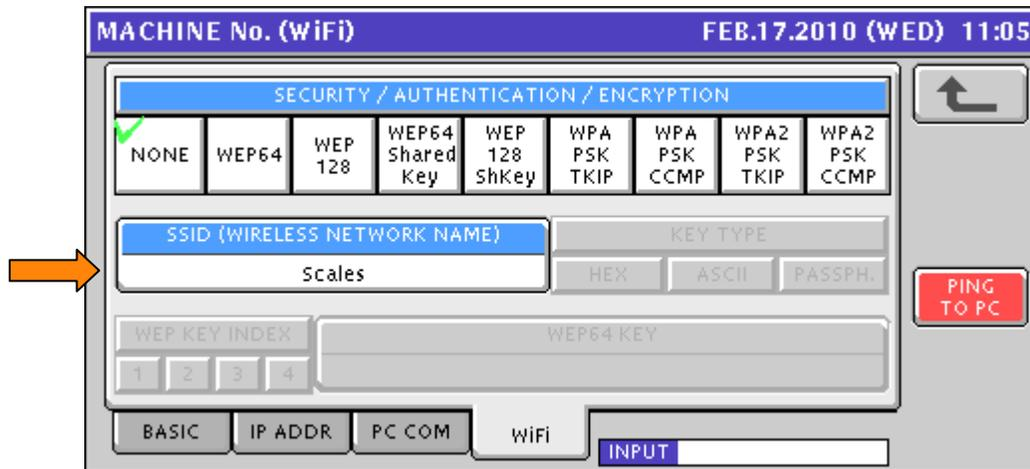

Figure 5.3. SSID Wireless Network Name Is Set (It Is Case Sensitive)
10. The new SSID Network Name is displayed. See Figure 5.3.